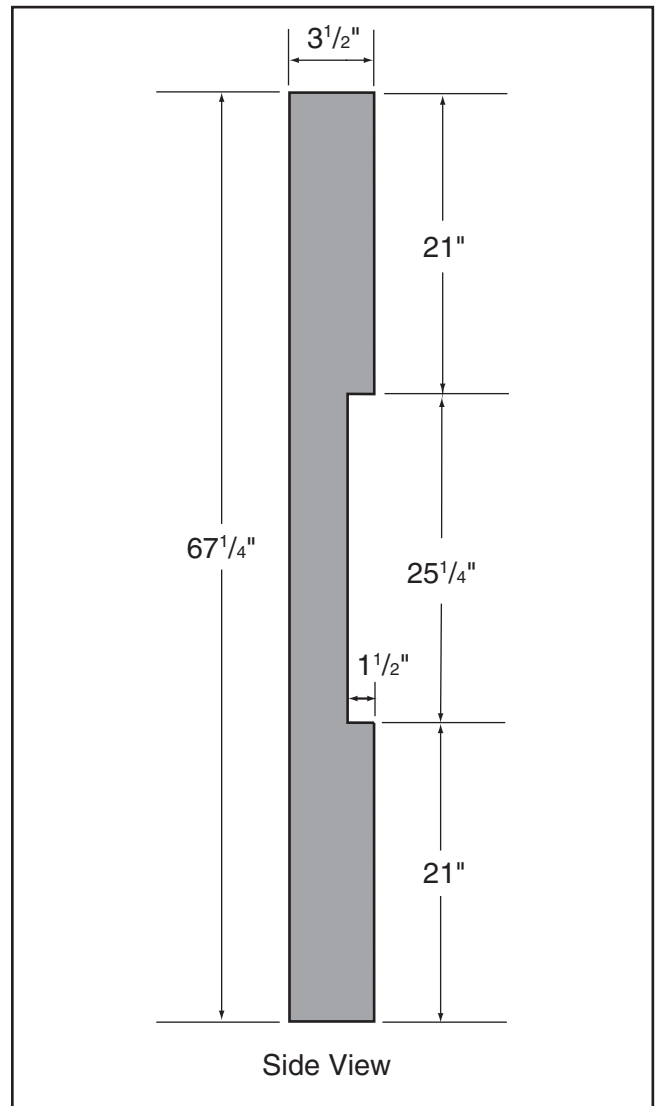

Figure 45. Dimensions of coplanarity gauge.
| Coplanarity Gauge (see Figure 45) | 1 |
1. Make the "Coplanarity Gauge" shown in **Figure 45**.